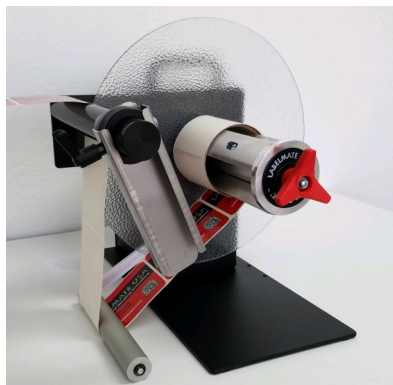
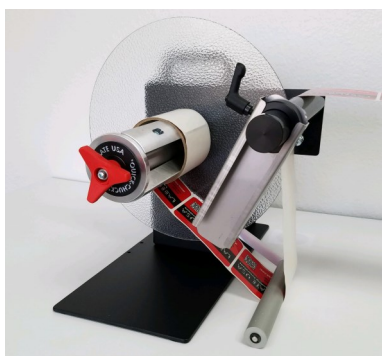

FIG. 10
FIG. 15
- The Bracket Guide (BG) is mounted on the Left side for labels moving from Left-to-Right. (FIG.2 and FIG.10)
- Feed the label web from the printer over the black shaft, under the Tension Arm, and secure it to the take-up roll core with tape. Rotate the take-up reel a couple of turns. FIG.10 and FIG.15 show the web path for internal rewinding.